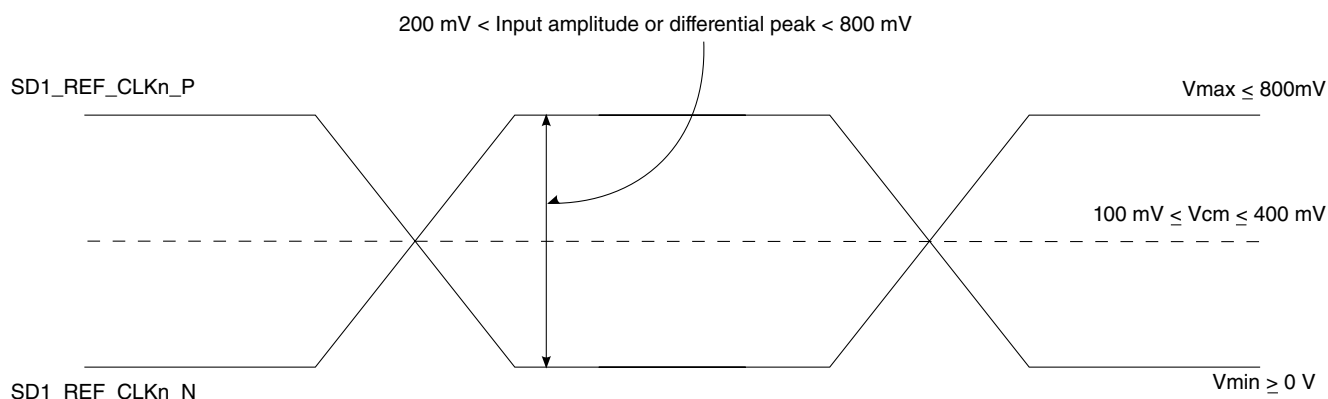

Figure 34. Differential reference clock input DC requirements (external DC-coupled)
- For an external DC-coupled connection, as described in SerDes reference clock receiver characteristics, the maximum average current requirements sets the requirement for average voltage (common mode voltage) as between 100 mV and 400 mV. Figure 34 shows the SerDes reference clock input requirement for DC-coupled connection scheme.